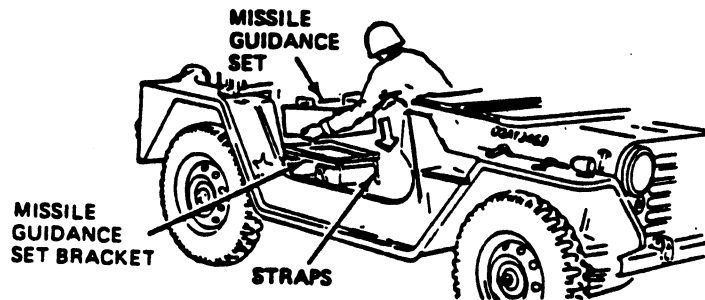

Fig 2-41. Securing missile guidance set.
Step 2. Place the missile guidance set (MGS) in the MGS bracket and secure the MGS with straps (fig 2-41).